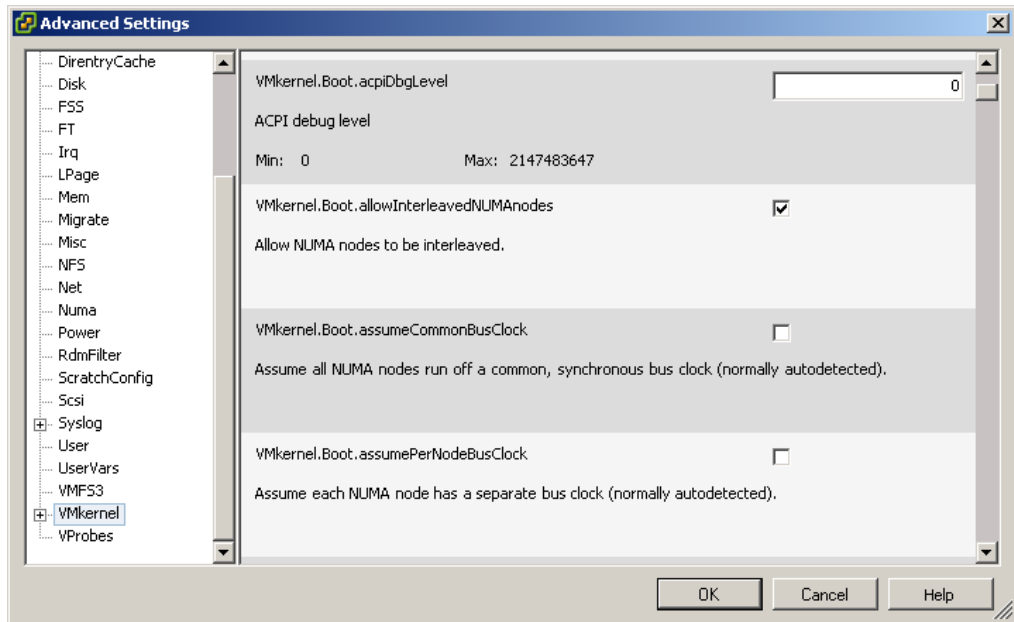

Figure 8-54 Editing the VMkernel settings in the vSphere Client
- j. Click **VMkernel** in the left pane and select the check box next to **VMkernel.Boot.allowInterleavedNUMAnodes**, as shown in Figure 8-54 on page 418.